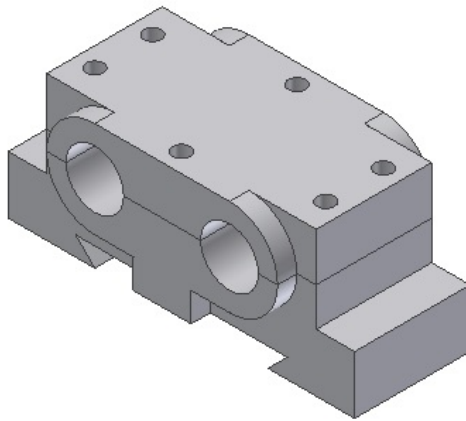

Figure 10-36 Assembly after assembling the Base and the Cap to it
1. Place one instance each of the Base and the Cap in the assembly file by using the **Place** tool and make the base grounded. If required, you can choose the **Rotate** tool from the Marking Menu to retain the orientation of the Assembly, shown in Figure 10-36.
2. Assemble these components using the **Constrain** tool. The assembly after assembling the Base and the Cap is shown in Figure 10-36.